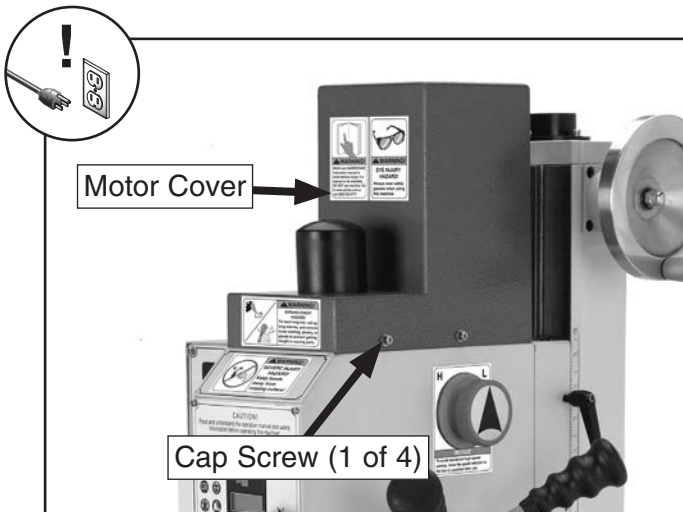

Figure 58. Removing motor cover.
2. Un-install the motor cover by removing the four cap screws that secure it (Figure 58).